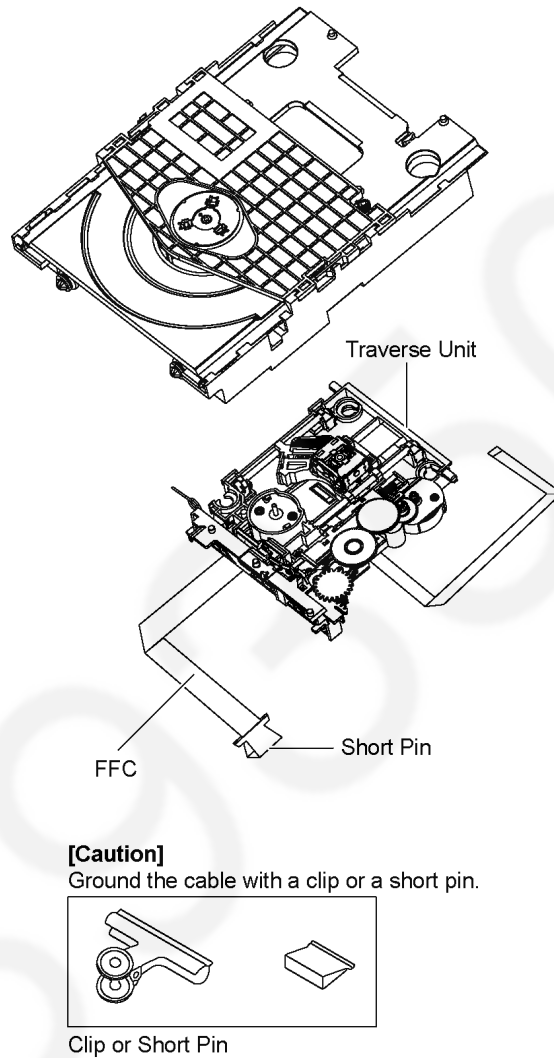

Figure 1
2. To prevent the laser diode from the electrostatic discharge damage, the flexible cable of the optical pickup unit removed should be short-circuited with a short pin or a clip (Figure 1).